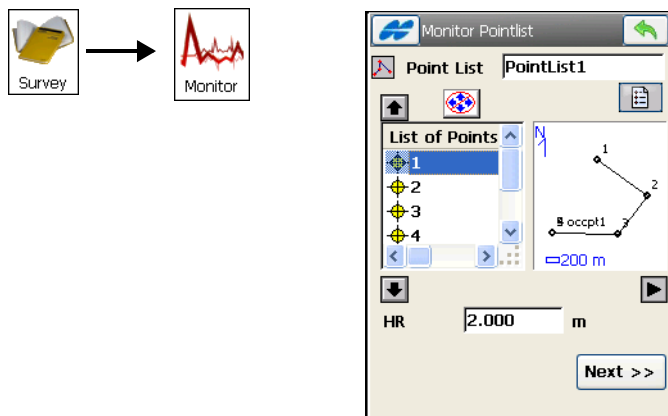

Figure 8-77. Monitor Point List
3. Tap **Survey ► Monitor** (Figure 8-77). The **Monitor Pointlist** screen opens to load the desired point list (Figure 8-77).